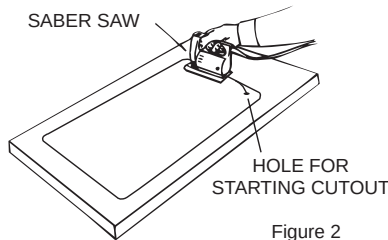

Figure 2
8. Drill a hole inside the line you have drawn. The hole should be large enough to take the blade of a key hole or saber saw. Carefully saw along the line. See Figure 2. Support the piece you are cutting out to prevent splitting when the cut is nearly complete.